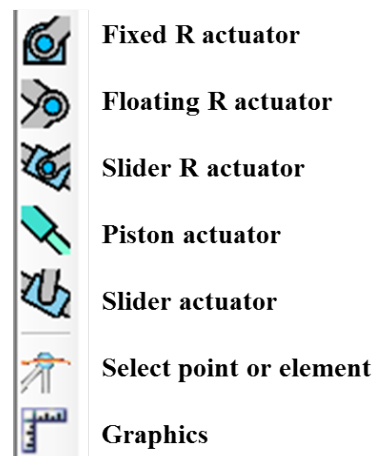

Figure 6: Vertical bar of Motion module
1. The vertical bar close to the drawing screen in which several icons appear so as to define the inputs' motion. The first five icons serve to define the inputs of the mechanism. The two last icons permit selecting specific elements or nodes, and showing graphs respectively (see Fig. 6).
The first step to proceed with the kinematic analysis of a mechanism under study is to define the input(s) of the mechanism. For a  $n$ -DOF mechanism,  $n$  number of inputs must be established. As highlighted in Fig. 6, the icons in the vertical bar serve to define the following type of inputs: fixed revolute actuator, floating revolute actuator, slider revolute actuator, piston actuator and slider actuator.